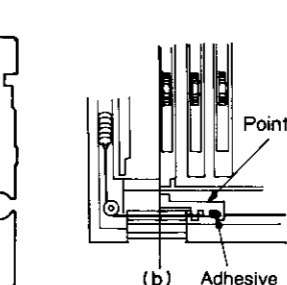

Fig. 5
3. Thread the dial cord following the numbered sequence shown in Figs. 5 and 6.